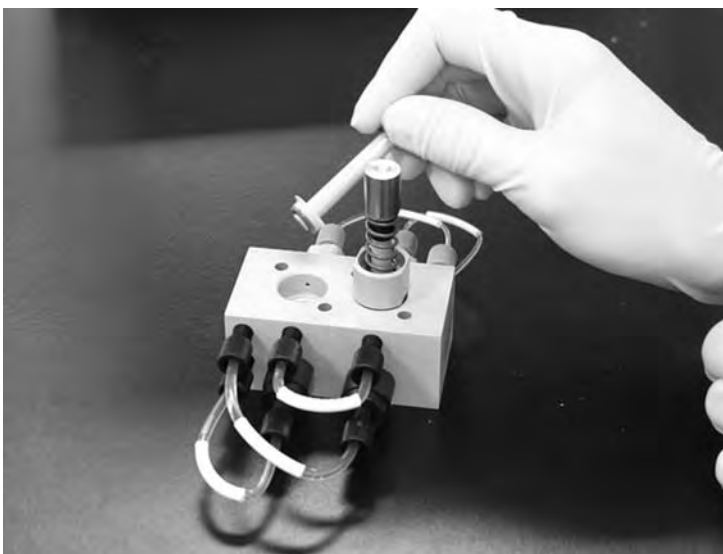

Fig. 13.9 Removing the main seals.
9. Use the piston seal tool to remove both main seals located at the bottom of the recess where the piston carriers were removed from by inserting the tip of the tool in the seal, and gently prying sideways until the seal pops loose from the recess (Figure 13.9).